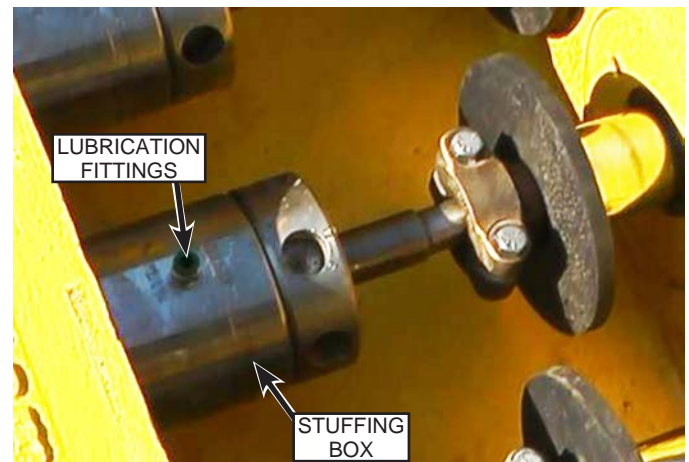

Fig. 53: Lubrication Line Fittings
17. Apply Teflon tape to the threads of the lubrication line fittings (Fig. 53). Install the fittings onto the stuffing boxes.